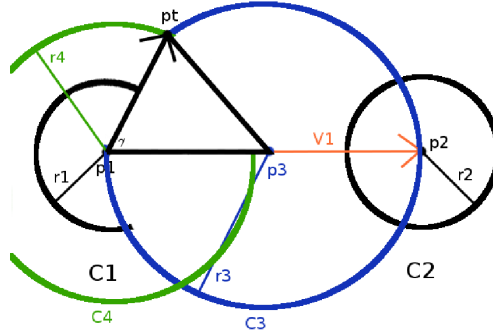

Figure 7: Step 4
4. Construct a vector \vec{V}_2 from p_1 to the “top” point, $p_t = (x_t, y_t)$ of intersection between C_3 and C_4 . If we can compute this vector, then we can get the first tangent point because \vec{V}_2 is pointing at it in addition to p_t . For visual reference, see Figure 7.